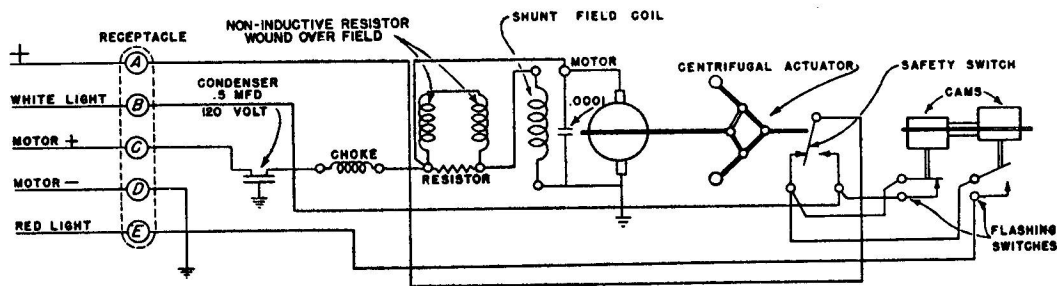

Figure 6-1 - Position Light Flasher-Assembly Numbers 450250-0-3 and 450350-0-3 Schematic Wiring Diagram
14 (a) Reconnect the wires from the cable assembly (33). Refer to schematic wiring diagrams (see Figure 6.1, 6.2 and 6.3)